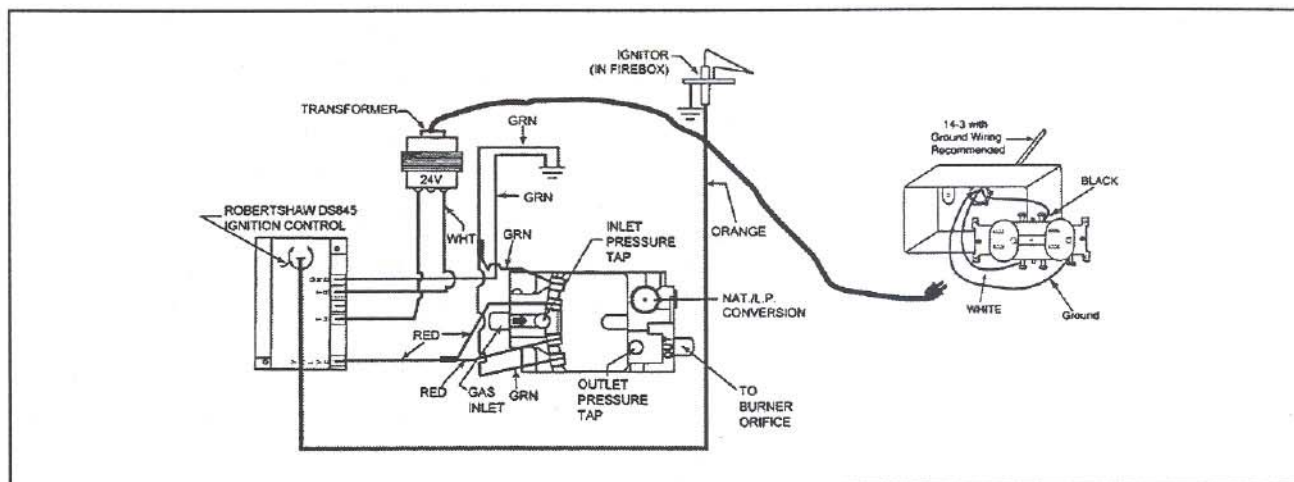

Figure 37 - Electronic Ignition Wiring Diagram
- 1) **Appliance Requirements.** This appliance requires a 110V AC supply from a wall switch to the appliance junction box for operation. A wiring diagram is shown in Figure 37.